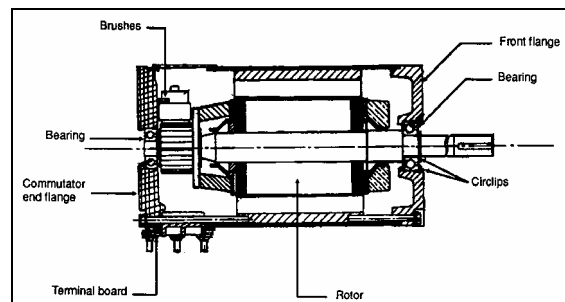

FIGURE 23: CONDENSER FAN MOTOR
2. Unscrew the flange retaining screws on the shaft end side (opposite to the commutator end frame), and separate flange from frame (Fig. 23).